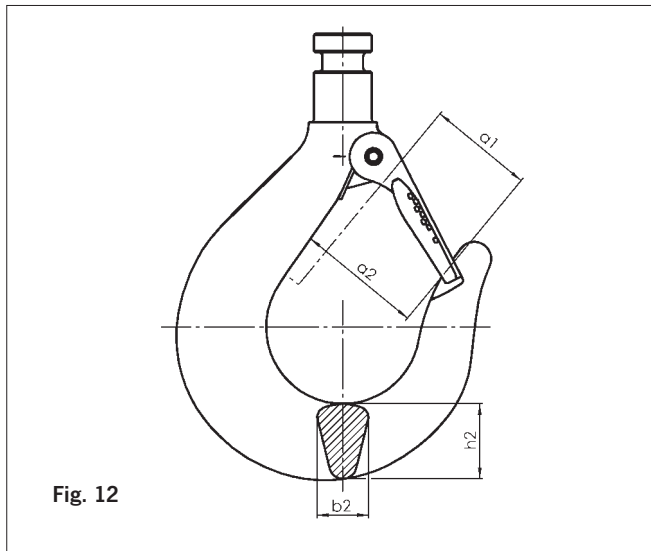

Fig. 12
- Inspect the load hook for deformation, damage, surface cracks, wear and signs of corrosion as required but at least annually. Adverse working conditions may dictate shorter periods. Hooks that do not fulfill all requirements must be replaced immediately. Welding on hooks to compensate for wear or damage is not permissible. Hooks must be replaced when the mouth of the hook has opened more than 10% (Fig. 12) or the nominal value of other dimensions has decreased by 5% due to wear. Nominal dimensions and wear limits are shown in the following table.